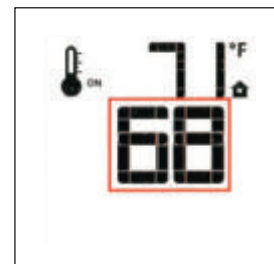

Figure 62. Change Set Temperature.
- To adjust the Set Temperature, press the Up or Down Arrow Keys until the desired Set Temperature is displayed. Fig. 62.